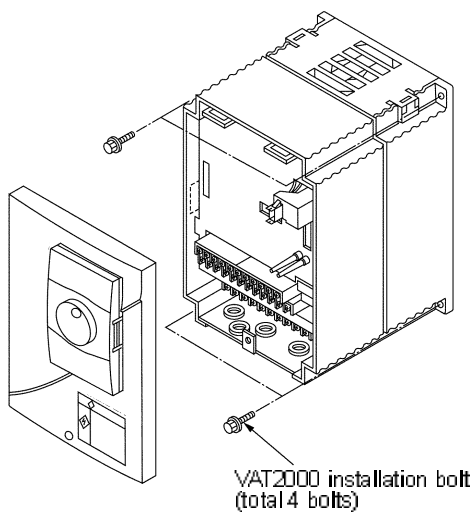

Fig 2.2
#### (1) N15K0, X18K5 and smaller (Fig. 2.2)